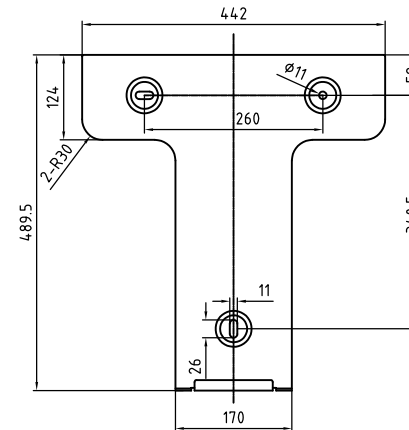

Figure 3.4.1 Mounting bracket and dimensions
1. Referring to Figure 3.4.1 or 3.4.2, select the mounting height of the bracket. For brick walls, the position of the holes should be suitable for expansion bolts.